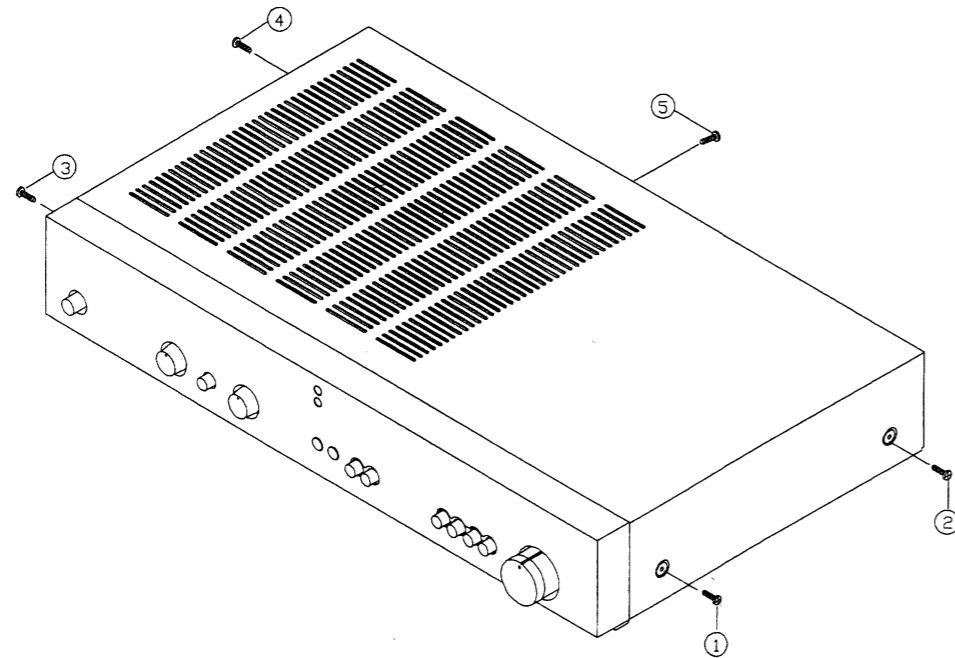

Fig. 1.
- a. ①-④ Machine screw M4.0x6.0 (See Fig. 1.)
- b. ⑤ Tapping screw M3.0x8.0 (See Fig. 1.)